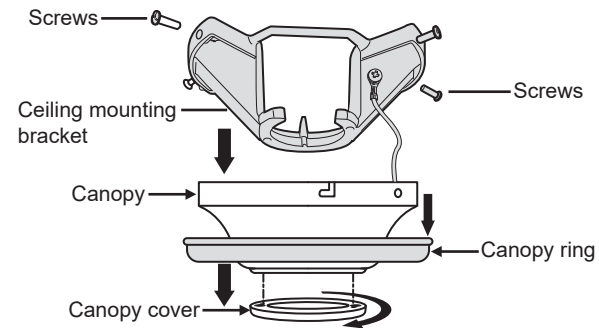

Fig. 5
Step 1. Remove the decorative canopy bottom cover from the canopy. (**Fig. 5**)
Step 2. Remove the decorative mounting screw cover from the canopy and loosen the four screws on the top of the canopy. Remove the two non-slotted screws and loosen the slotted screws. This will enable you to remove the ceiling mounting bracket. (**Fig. 5**)
Step 3. Remove the ceiling mounting bracket from the canopy by loosening the two screws on the bottom of the ceiling mounting bracket. Turn the canopy counterclockwise and remove. (**Fig. 5**)